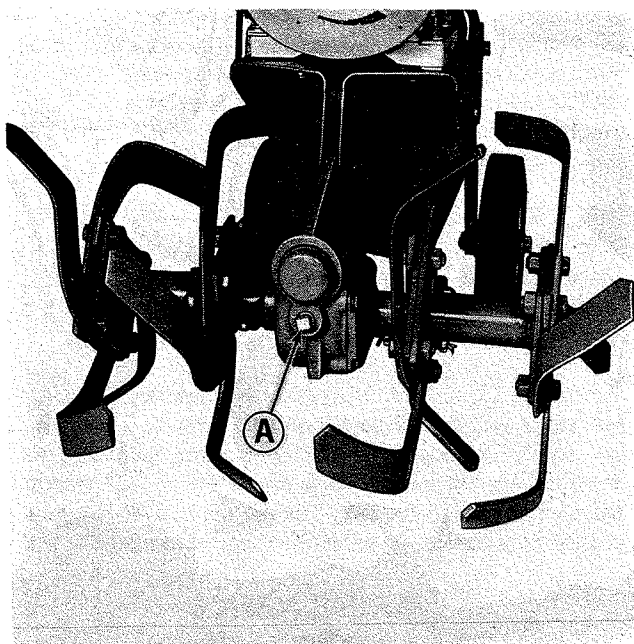

Figure 14. Worm gear drive oil level check plug.
Every five hours of operation, or oftener if any oil leaks are observed, the worm gear drive oil should be checked. See figure 14. Remove plug (A), the oil should be to the bottom threads of the plug hole when the Roticul is setting on a level surface. If oil is required, add Simplicity Worm Gear Oil. **CAUTION: DO NOT USE ORDINARY TRANSMISSION OIL. ANY OTHER OIL EXCEPT SIMPLICITY WORM GEAR OIL MAY CAUSE GEAR FAILURE.** To add oil, tip the Roticul back until the handles rest on the ground. Remove the filler plug and add worm gear oil through the plug hole. Fill until the oil is level with the plug hole when the tines are resting on the ground. Do not overfill. Replace plug (A) and tighten securely. **NOTE: DAMAGE TO THE WORM GEAR DRIVE WHICH RESULTS FROM USE FROM ANY OTHER LUBRICANT THAN SIMPLICITY BRAND SPECIAL WORM GEAR OIL WILL AUTOMATICALLY INVALIDATE THE WARRANTY.**